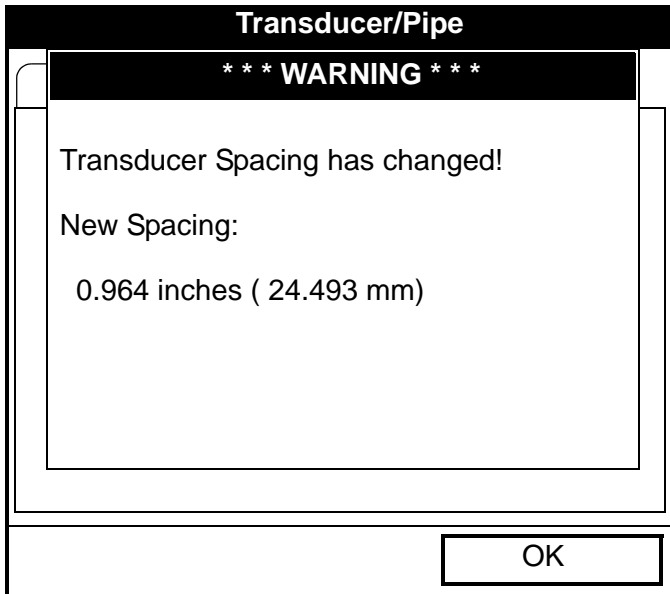

Figure 17: Transducer Spacing Change Window
Note: *When the corrected soundspeed is entered, a message similar to Figure 17 on page 33 appears. Press [F3] (OK).to return to the Site Menu.*